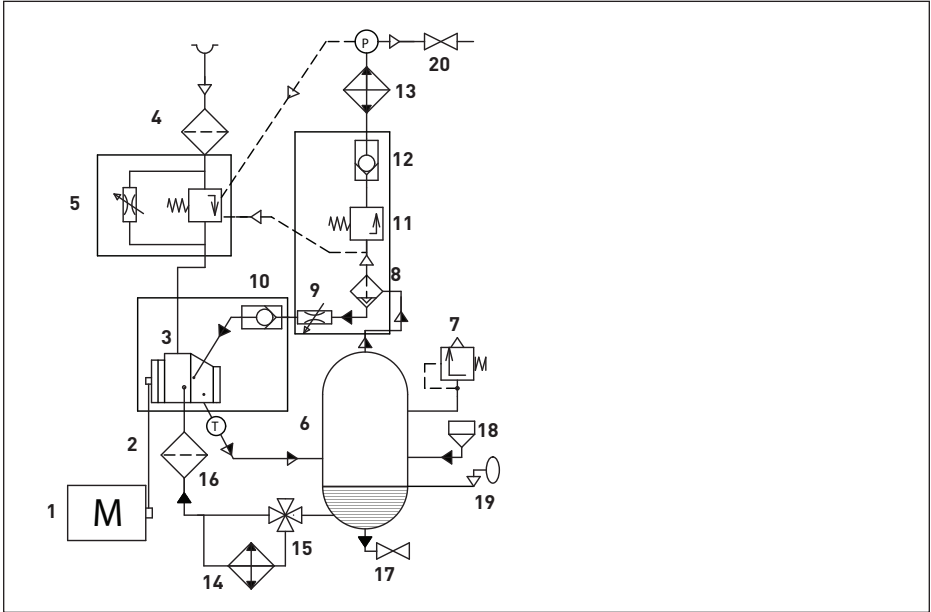
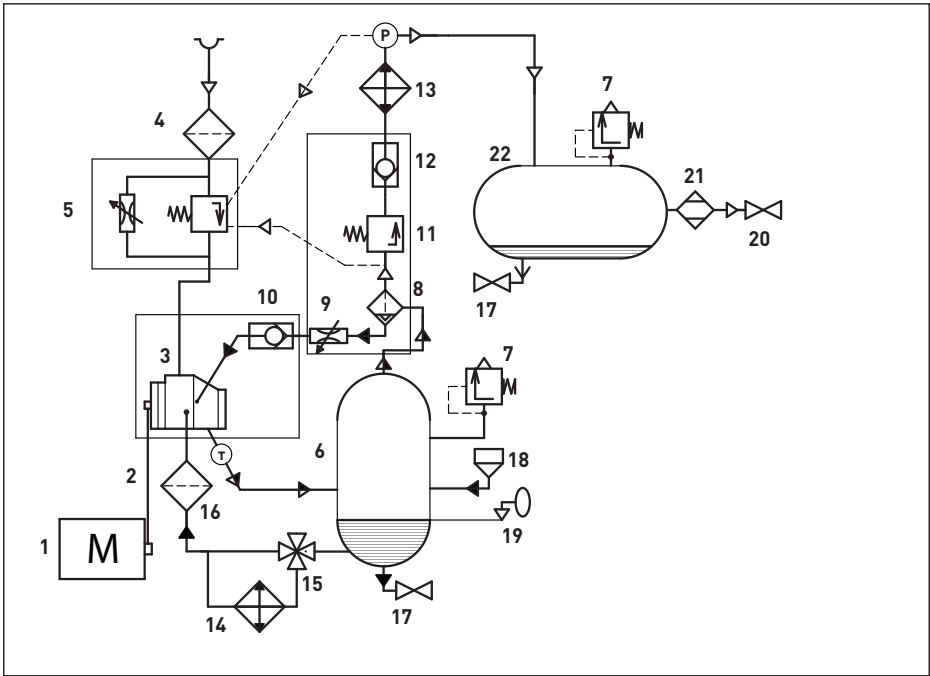

Fig. 2.1 Function diagram A07.-A22..
Fig. 2.2 Function diagram AR07..-AR22.., ARD07..-ARD22..
2.4 Functional description (see Fig. 2.1 and Fig. 2.2)